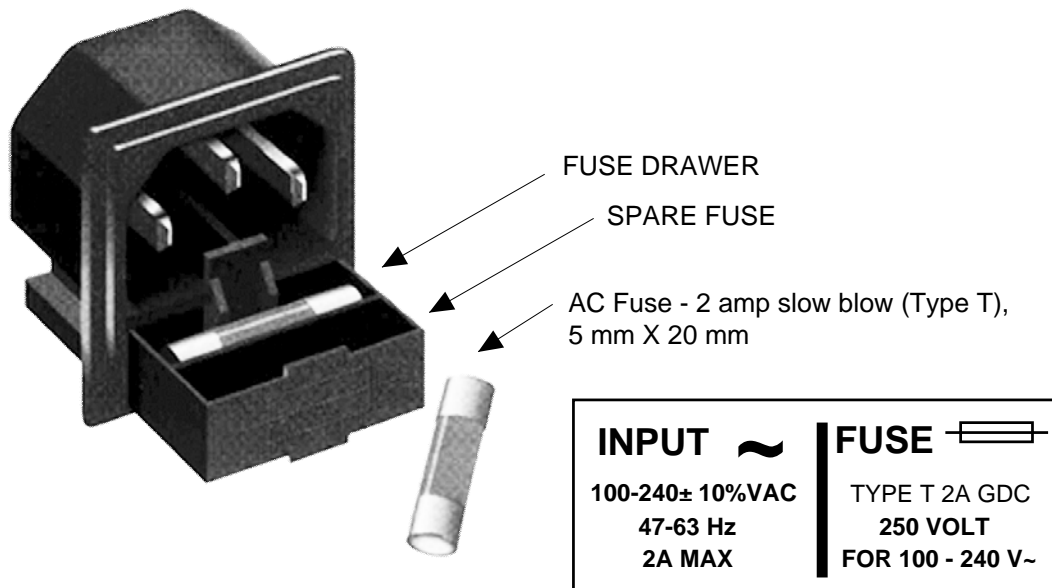

FIGURE 2.4 Fuse Location and Spare Fuse
8. **AC Fuse** - The fuse is a 5 mm X 20 mm, 2 amp slow blow (Type T) and is inserted in the far slot in the drawer below the AC input as shown in Figure 2.4, page 10. There is a spare fuse in the near slot. If a fuse continues to open, the power supply is most likely defective.